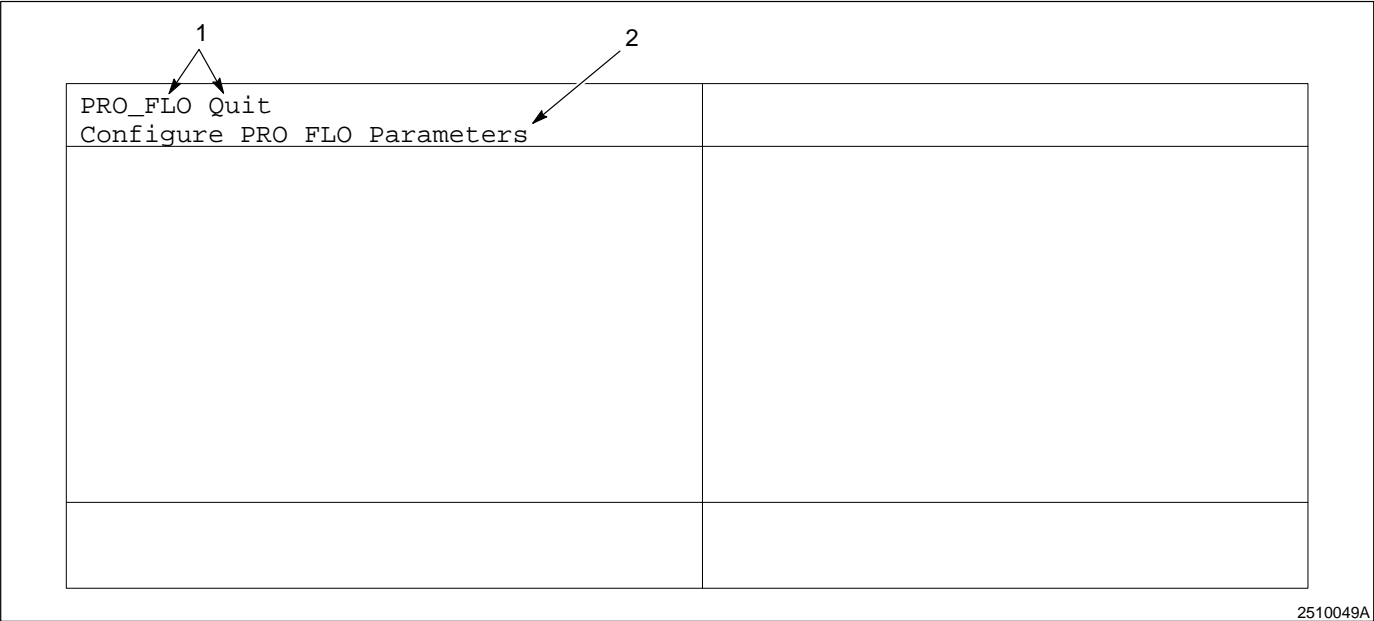

Fig. 4-7 Top-Level Menu
- 6. See Figure 4-7. Press **ENTER** to display the top-level menu.